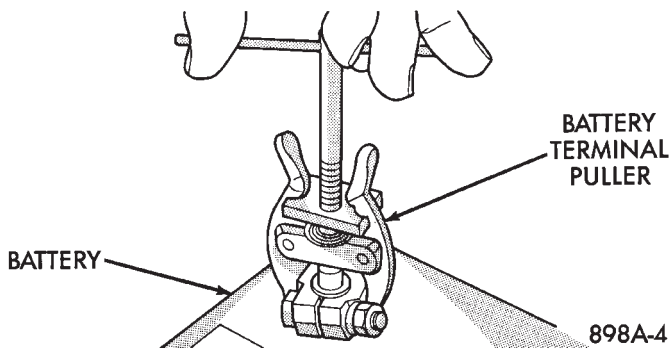

Fig. 15 Remove Battery Cable Terminal Clamp - Typical
- (1) Turn the ignition switch to the Off position. Make sure all electrical accessories are turned off.
- (2) Loosen the cable terminal clamps and disconnect both battery cables, negative cable first. If necessary, use a puller to remove the terminal clamps from the battery posts (Fig. 15).